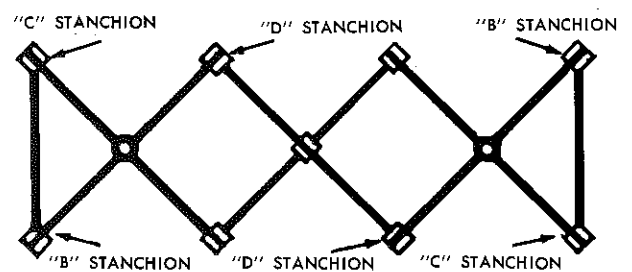

FIGURE 6
□ Next, insert the two "B" stanchions through the two diagonal corner holes. The two "C" stanchions fit through the two remaining corner holes. (Fig. 6) Again make sure that the stanchion slots line up as shown in the illustration. The two "D" stanchions fit the two remaining sets of holes. Again observe the direction of the stanchion slots.